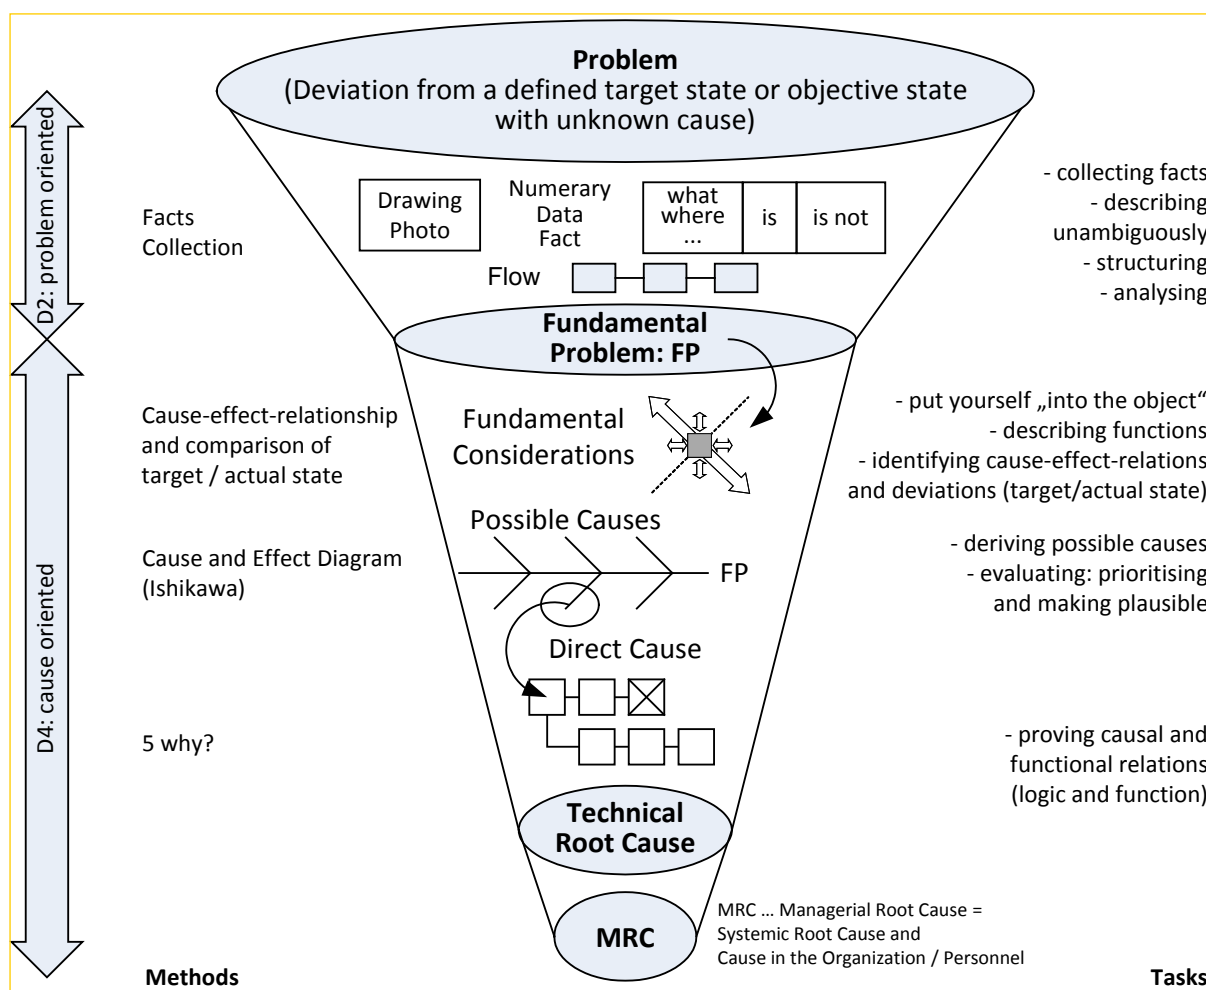

Figure 3.2: Bosch problem solving funnel
- The **procedure for problem solving** forms the core of the methodology. The steps correspond to the procedure used in the 8D method (see Appendix 1). They are adapted to the different problem areas (product problems, process problems, problems in the indirect area) and the contents detailed with regard to some subtasks. The basic procedure (see figure 3.2 problem solving funnel) can be applied, however, regardless of complexity and the problem area.
As explained in section 2 "principles for problem solving", the problem description (D2) and the cause-effect analysis (D4) comprise the decisive steps in the procedure. These are summarized and represented in the **Bosch problem solving funnel** (figure 3.2). The main **tasks** are explained below. The associated basic **methods** are described in **section 4**. **Section 5** describes in detail the specifications of the procedure in different **problem areas**. The focus is on the description of the procedure for **product problems** – presented in the form of guidelines (section 5.3).
The fundamental problem solving methods are listed in the problem solving funnel (figure 3.2) allocated to the corresponding tasks. These methods help in the systematic procedure and structure the basic issues and results.
are documented in tabular form under the so called "Is"-column. The problem is thus **described clearly and in a structured manner** based on **facts** (no suspicions or opinions) (see tasks in the problem solving funnel, figure 3.2).